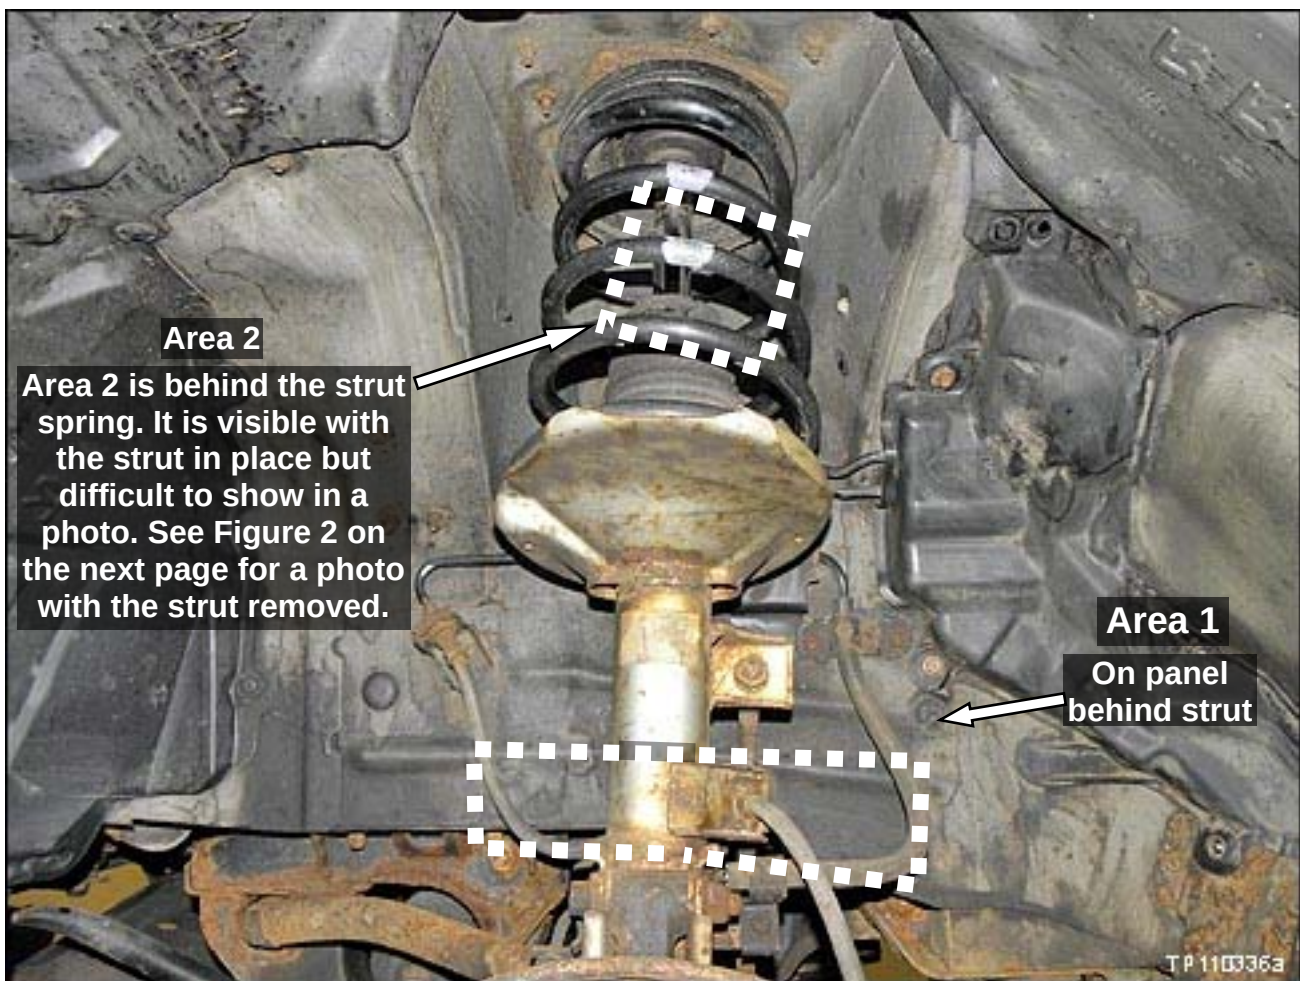

Figure 1
3. Inspect for corrosion ON BOTH SIDES in the strut housing Area 1 and wheel house Area 2 (see Figures 1 through 6).